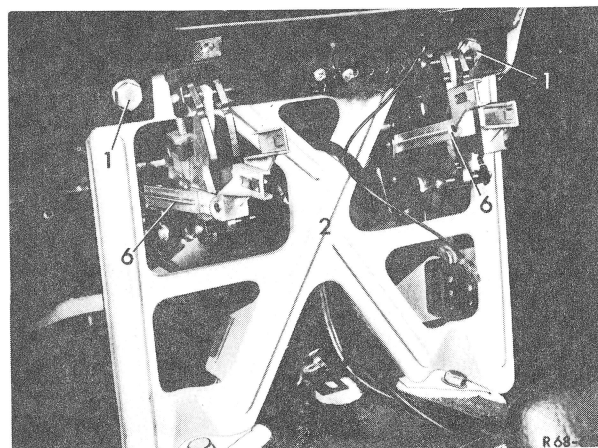

Fig. 1
- 14 Unscrew both bolts (1) on support (2) (Fig. 1).
20 Pull instrument panel on lower end in center over controls (6). (Fig. 1).